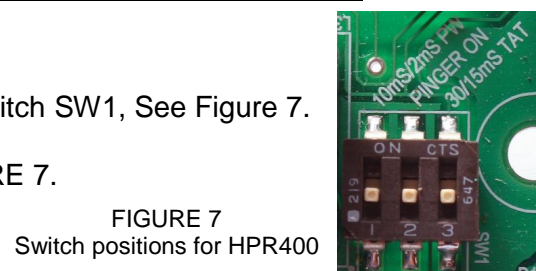

FIGURE 7
- 2) Set the transmitted pulse width (PW) to 10mS using switch SW1, See Figure 7.
- 3) Set the TAT to 30mS by using switch SW1, See FIGURE 7.